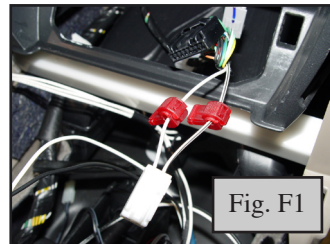

Fig. F1
2. Attach T-taps as shown. (Fig. F1)